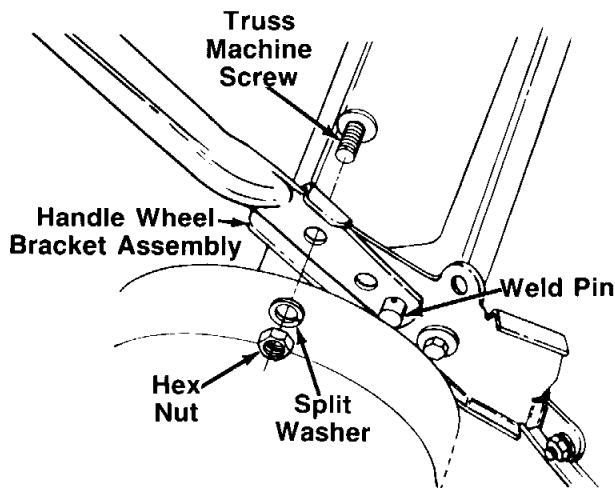

FIGURE 1.
3. Secure the upper portion of the handle wheel bracket assembly to the lower handle using truss machine screw, 5/16" split washer and hex nut. See figure 1. Repeat on other side.